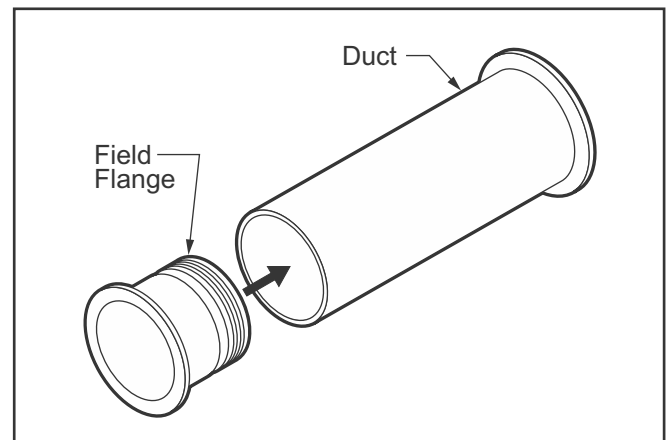

Fig. 23: Install Field Flange
4. Install Field Flange: The flange adapter requires two "o" rings that are installed in the 2 outer grooves in the barrel behind the flange. The inside groove is used for the crimping operation. Insert the adapter into the cut end of the duct. Make sure the adapter, duct and "o" rings are clean and undamaged. Using a clean plastic or leather mallet, gently drive the adapter into the stop at the back of the flange. Use a clean cloth as additional protection on the end of the flange. DO NOT use a steel hammer. (Fig. 23)